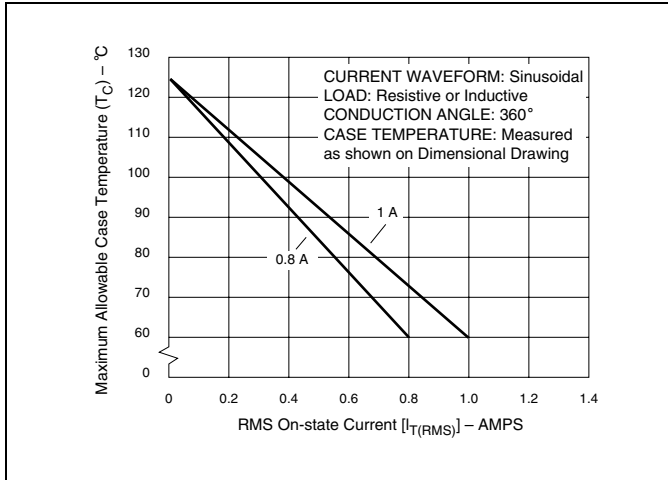
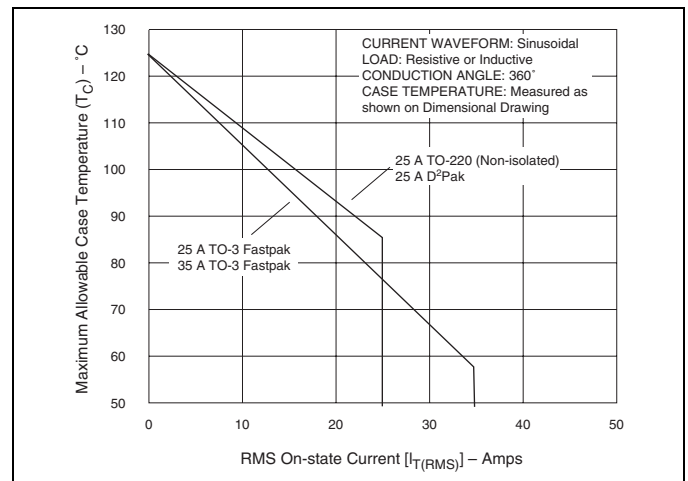
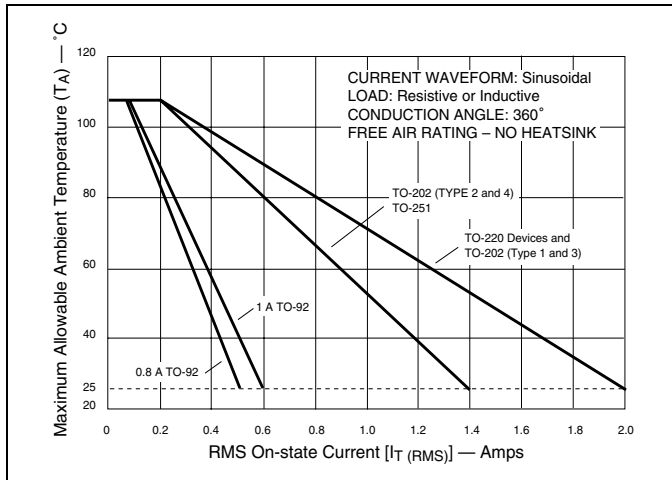
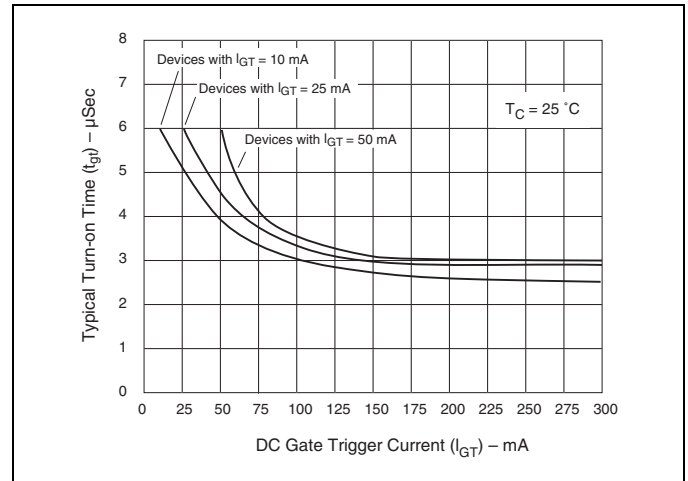

Figure E2.1 Maximum Allowable Case Temperature versus On-state Current (0.8 A and 1 A)
Figure E2.6 Maximum Allowable Case Temperature versus On-state Current (25 A and 35 A)
Figure E2.7 Maximum Allowable Ambient Temperature versus On-state Current
Figure E2.15 Turn-on Time versus Gate Trigger Current (Typical)
- (1) For either polarity of MT2 with reference to MT1 terminal
- (2) For either polarity of gate voltage ( $V_{GT}$ ) with reference to MT1 terminal
- (3) See Gate Characteristics and Definition of Quadrants.
- (4) See Figure E2.1 through Figure E2.7 for current rating at specific operating temperature.
- (10) See Figure E2.15 for  $t_{gt}$  versus  $I_{GT}$ .
- (11) See package outlines for lead form configurations. When ordering special lead forming, add type number as suffix to part number.
- (12) Initial on-state current = 200 mA dc for 0.8 A to 10 A devices, 400 mA dc for 15 A to 35 A devices
- (13) See Figure E2.1 through Figure E2.6 for maximum allowable case temperature at maximum rated current.
- (14) Pulse width  $\leq 10 \mu s$ ;  $I_{GT} \leq I_{GTM}$
(18) Quadrants I, II, III only
(19) Minimum non-trigger  $V_{GT}$  at 125 °C is 0.2 V for all except 50 mA MAX QIV devices which are 0.2 V at 110 °C.